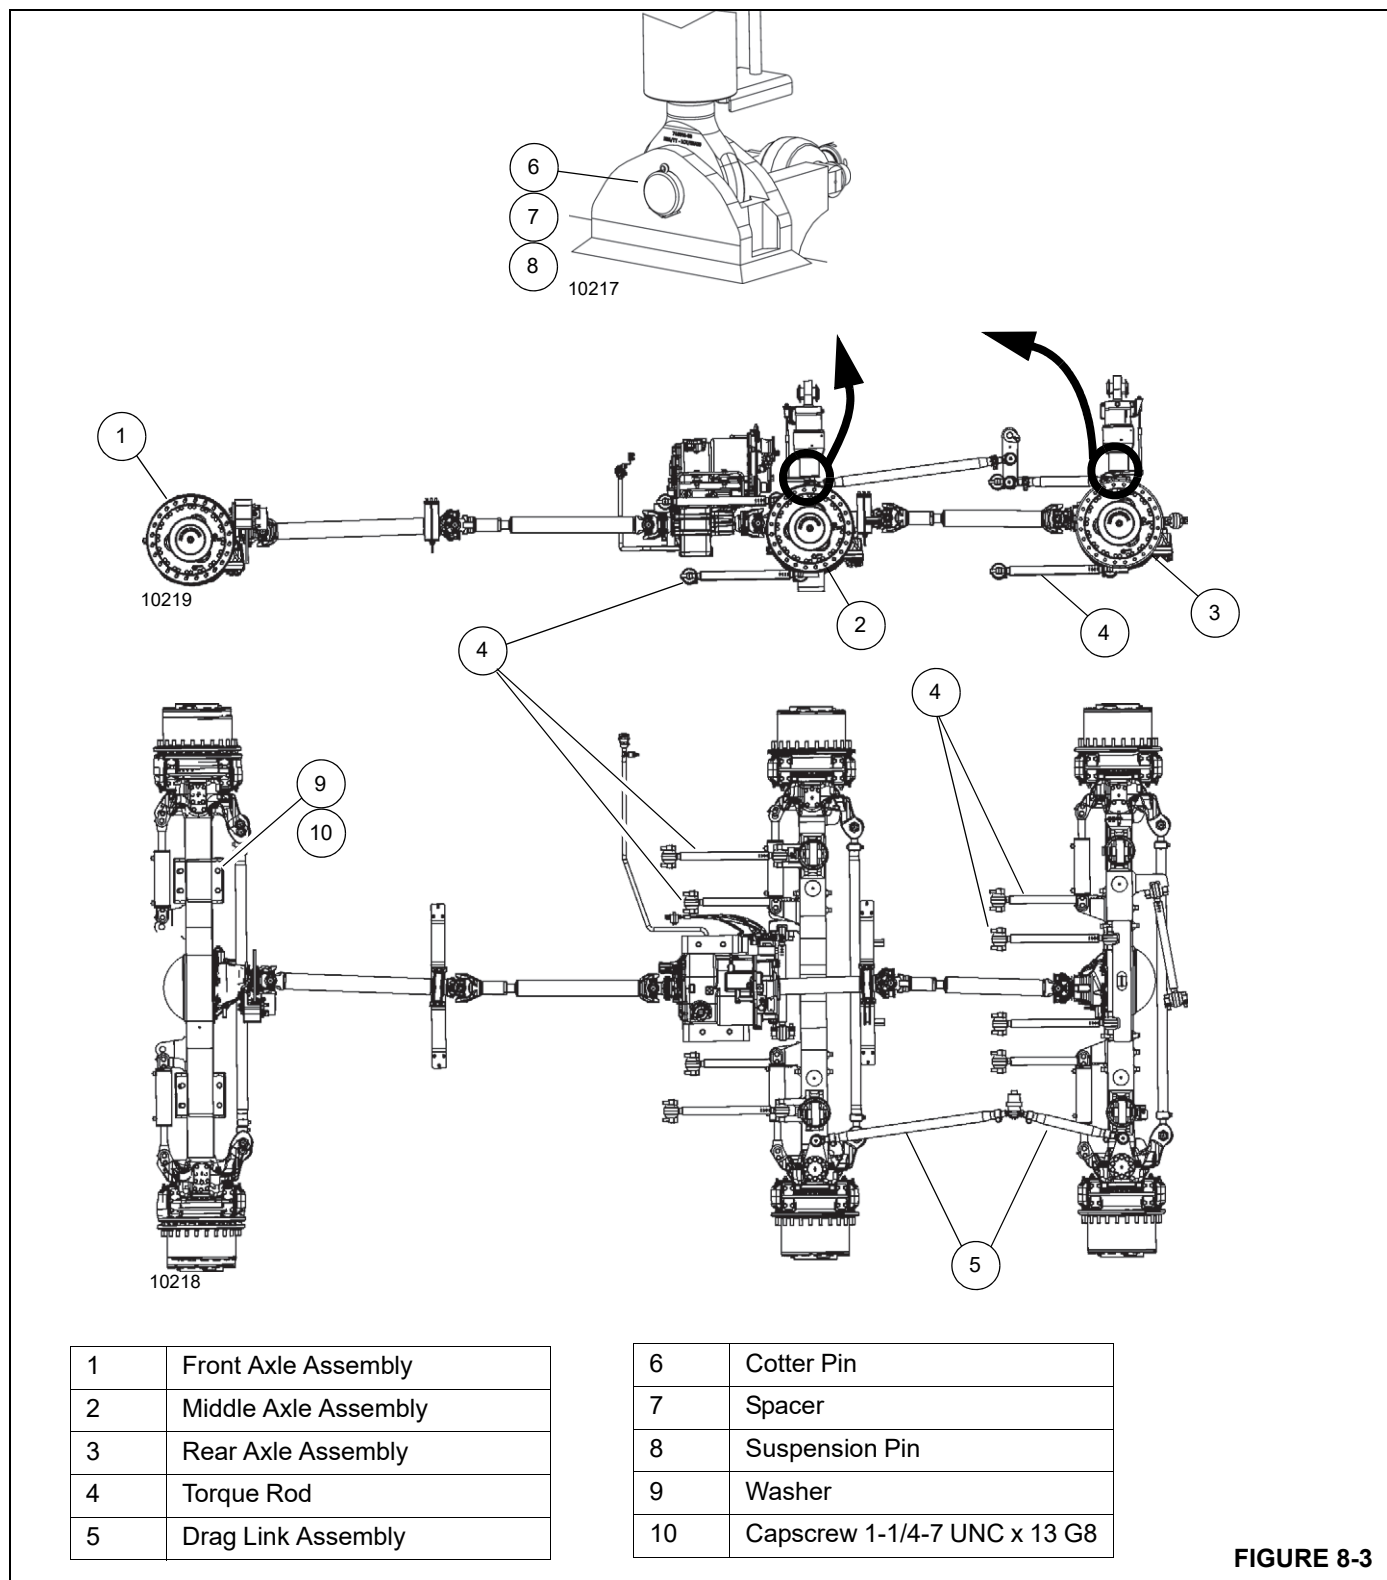

FIGURE 8-3
- a. Disconnect torque rods (4, Figure 8-3) from axle (middle or rear).
- b. Disconnect the drag link assembly (5) from the axle (middle or rear).
- c. Remove cotter pins (6), spacers (7), and lower suspension pins (8) from the axle. Lower the rear axle slowly.
- a. Remove the washers (9) and capscrews (10) securing the axle to the frame/cradle.
2. Install the front axle (1, Figure 8-3) as follows:
- b. Raise the axle into place and secure with the eight attaching capscrews (10) and washers (9). Torque capscrews. For more information, see *Fasteners and Torque Values*, page 1-16 for proper torque value.
3. Install the middle (2) and rear (3) axles as follows:
- a. Install the strut cylinder to the frame with spacers (7), suspension pins (8), and cotter pins (6).
- b. Connect the drag link assembly (5) to the middle (2) or rear (3) axle. Apply Loctite® 243 or equivalent to drag link clamp capscrews. Torque ball joints from 332 N-m to 366 N-m (240 ft-lbs to 270 ft-lbs).
- c. Apply Loctite® 243 or equivalent to capscrews and connect torque rods (4) to middle (2) or rear (3) axle. Torque the capscrews. For more information, see *Fasteners and Torque Values*, page 1-16.